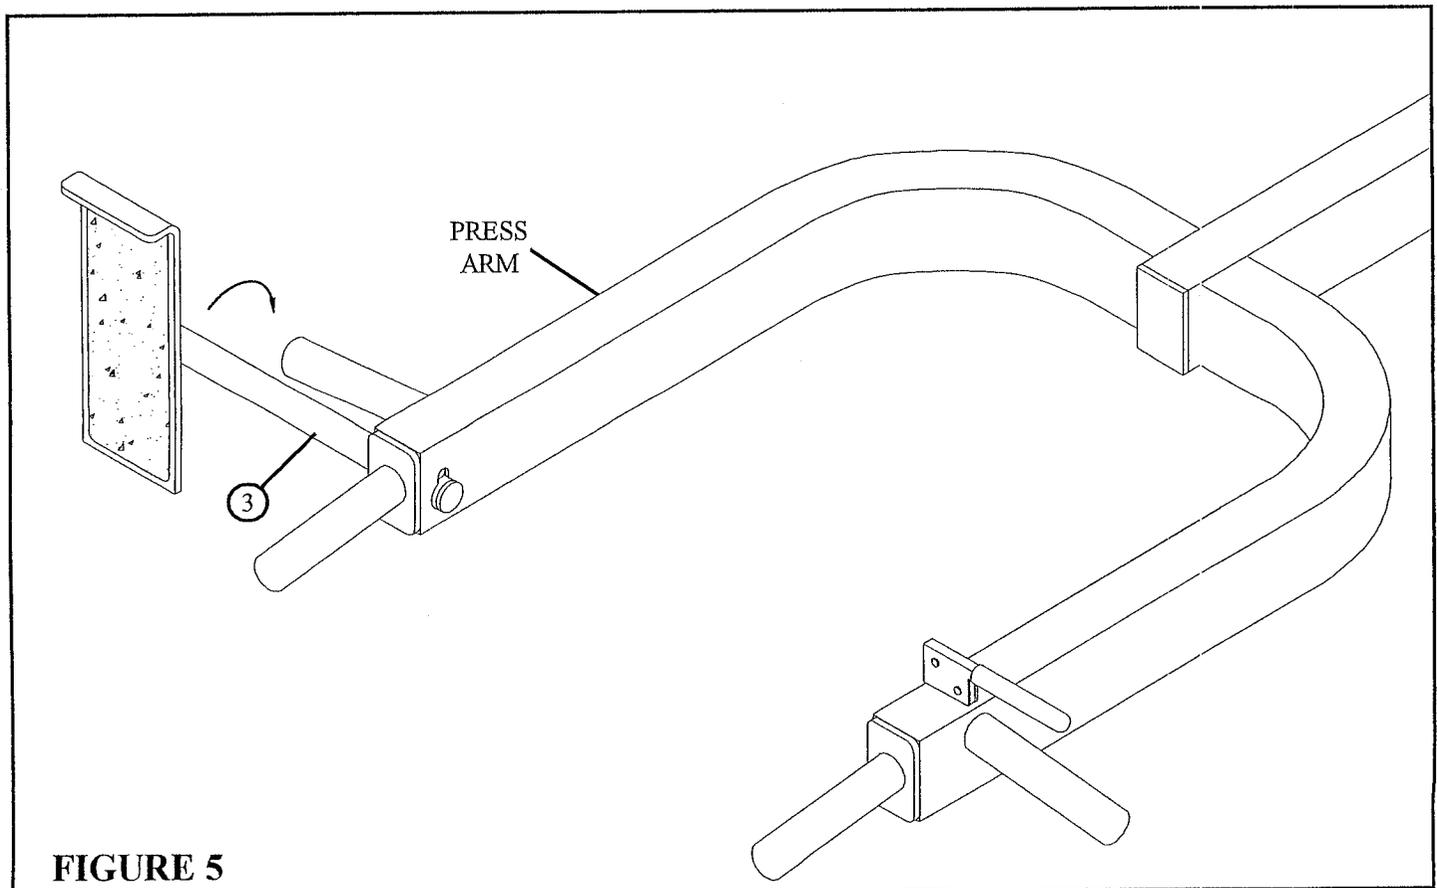

FIGURE 5
- Rotate GLUTE KICK (3) 90° to hold GLUTE KICK (3) in PRESS ARM. See FIGURE 5.